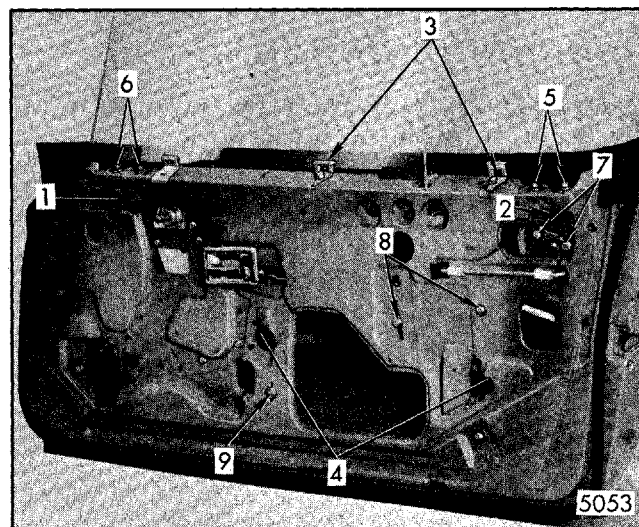
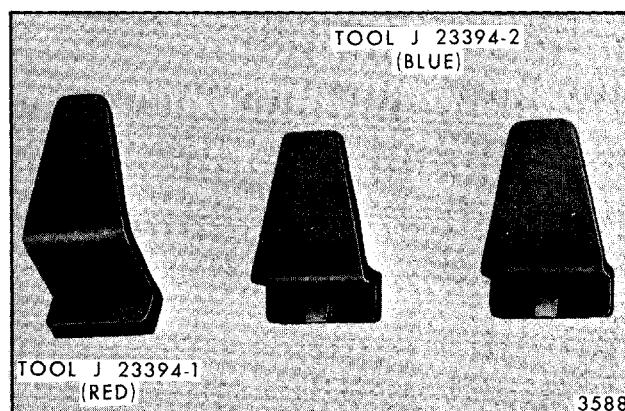

Fig. 5-120-Window Hardware Attachments - F Styles
Fig. 5-121-Glass Alignment Gage Blocks - Tool J-23394 or Equivalent (Set of Three Blocks) - F Styles
In the following steps, the numbers in parentheses refer to items in Figure 5-120. After making any adjustments, tighten all loosened attachments to 72 in-lb.
The following procedure outlines the use of gage blocks J- 23394-1 and J-23394-2 (2 required) or equivalent (Fig. 5-121) to consistently align the door glass. In the following steps, numbers in parentheses refer to items in Figure 5-120 unless otherwise specified.
2. Remove front and rear up-travel stops (1 and 2, Fig. 5-120).
4. With window in three-quarter-down position, remove lower sash channel cam to glass attaching nuts (4, Fig. 5-120). Remove window by lifting straight up and aligning rollers with notches provided in the door inner panel.